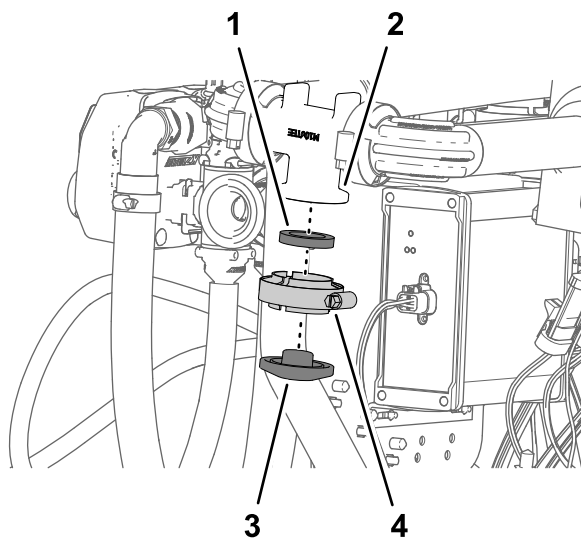

Figure 136
3. Assemble the plain clamp onto the flange of the flow-meter manifold with the flange clamp and gasket that you removed in step 2, and tighten the clamp by hand (Figure 136).